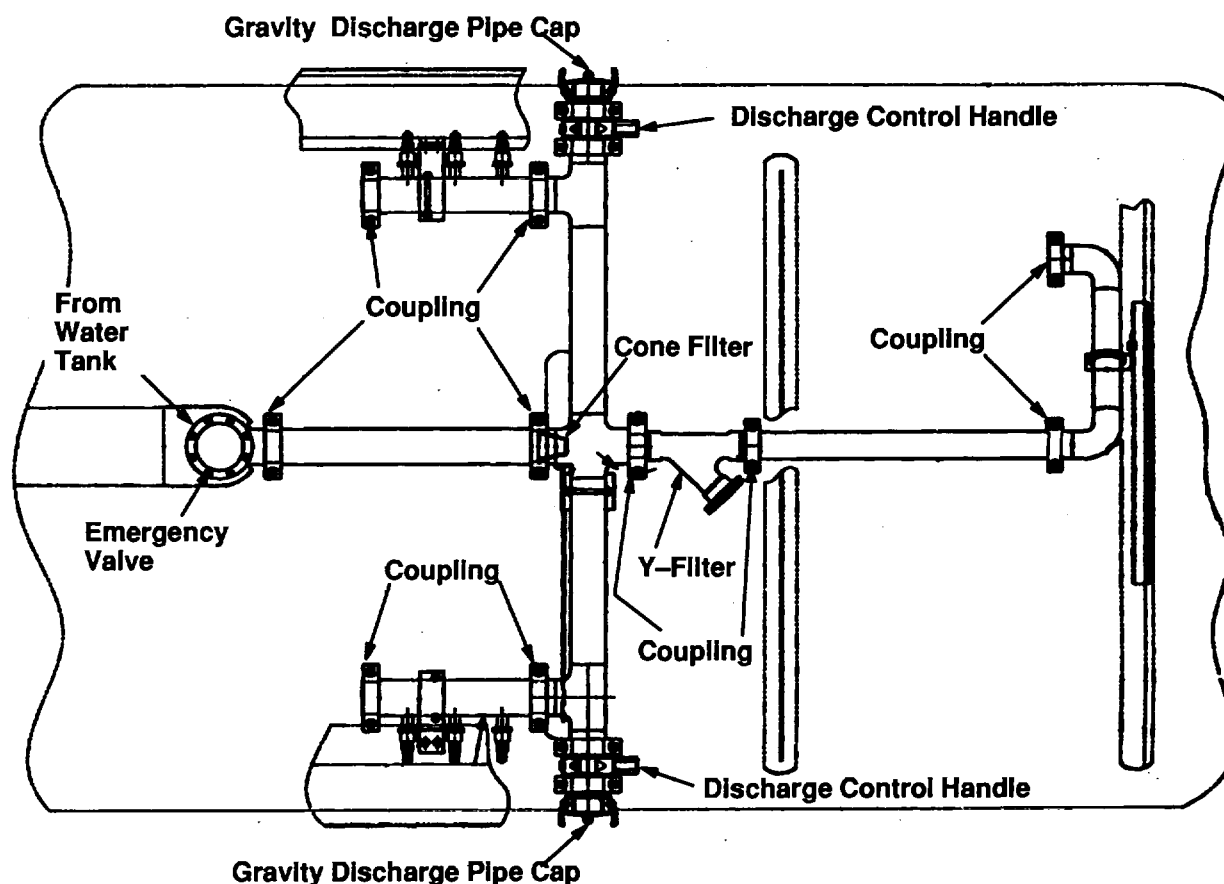

Figure 4-28. M1098 Water Piping
- (1) Close emergency valve.
- (2) Open discharge valve and drain water from path of emergency valve through discharge valve.
(3) Remove two bolts that secure coupling to pipe at cone filter, fig. 4-28. Loosen or remove coupling bolts at other end of pipe so that cone filter can be removed. If pipe is not removed, support at both ends after filter is removed.
(4) Inspect filter for damage. Replace if damaged. Clean with water if not damaged.
(5) Install cone filter into pipe and support pipe at both ends. Secure coupling with two bolts at each end of pipe.
(6) Close discharge valve and open emergency valve.
(7) Open discharge valve and allow air to expel until a free flow of water is observed. Then close discharge valve and emergency valve.